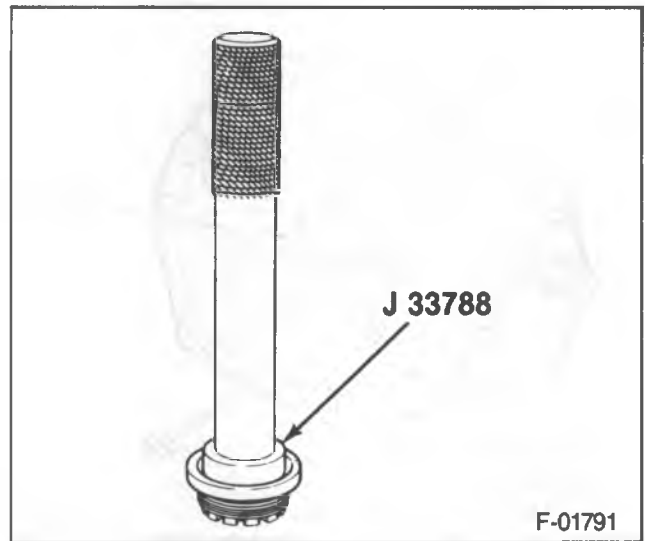
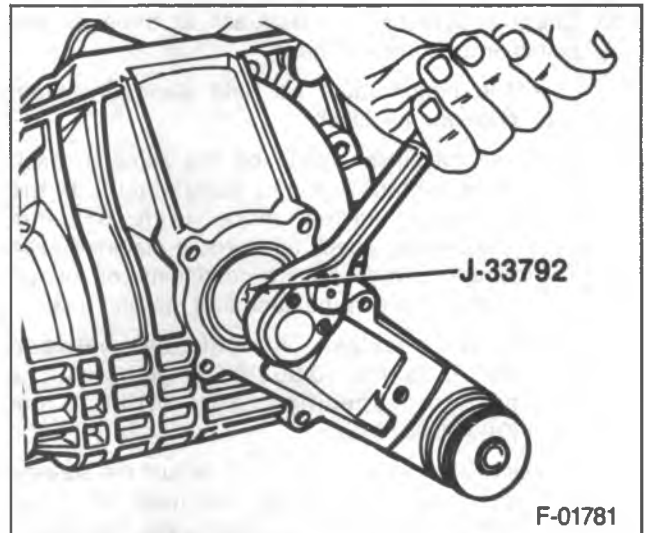

Figure 23—Installing the Sleeve Bearing
Figure 24—Adjusting the Sleeve
1. Bearings (30) into the sleeves (32) using J 33788 (figure 23).
2. Sleeves (32) into the carrier case (29). Thread in all the way.
3. Side bearing cups (33) into the carrier case (29) using J 23423-A.
- Place the differential case assembly (35) into the carrier case half which contains the pinion gear.
- Turn the left sleeve (32) in toward the differential case using J 33792 until backlash is felt between the ring and pinion gear.
5. Carrier case halves (29). Do not use any sealer at this time.
- If the carrier halves do not make complete contact, back out the right hand adjusting sleeve (32). Use J 33792 (figure 24).
2. Tighten the right sleeve (32) to 140 N·m (100 ft. lbs.). Use J 33792 (figure 24).
3. Tighten the left sleeve (32) to 140 N·m (100 ft. lbs.). Use J 33792 (figure 24).